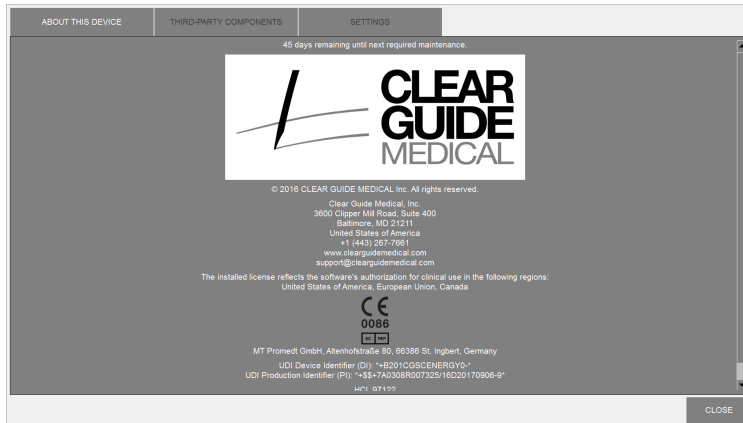

Figure 6: Settings window: System information
3. Choose the “SETTINGS” tab (Figure 6).